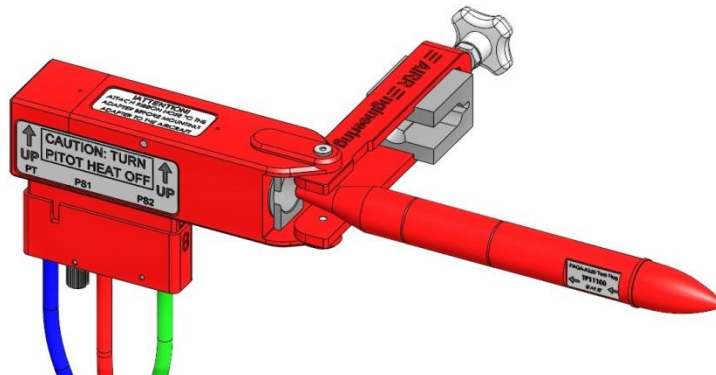

Figure 9: Pitot adapter cam handle in the open position, pusher retracted
- A. If all of the adapters indicate a leak, the problem is likely in the Air Data Test Set or ADIM. Otherwise, place the cam handle in the open position on the adapter in question. Retract the pusher by rotating the knob counter-clockwise until it comes to a soft stop (Figure 9).